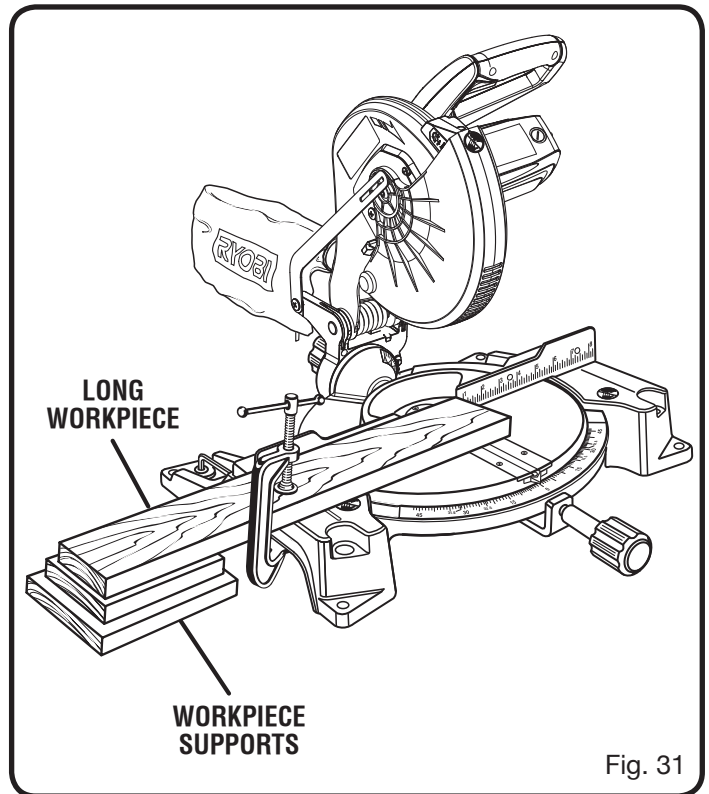

Fig. 31
- When cutting long pieces of lumber or molding, support the opposite end of the stock with a roller stand or with a work surface level with the miter table. See Figure 31.
See Figure 31.